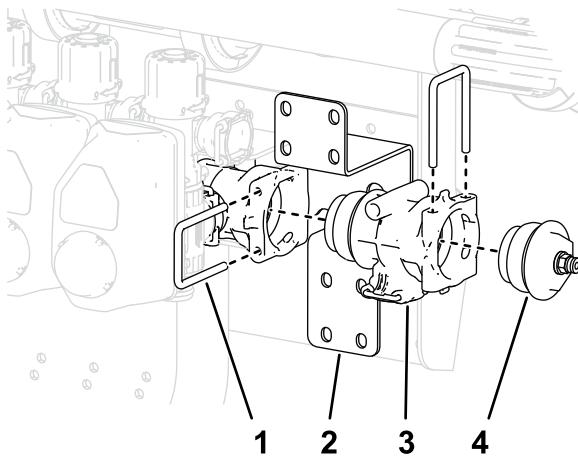

Figure 35
3. Remove the retainer that secures the fitting cap and coupler from the end of the valve section (Figure 35).